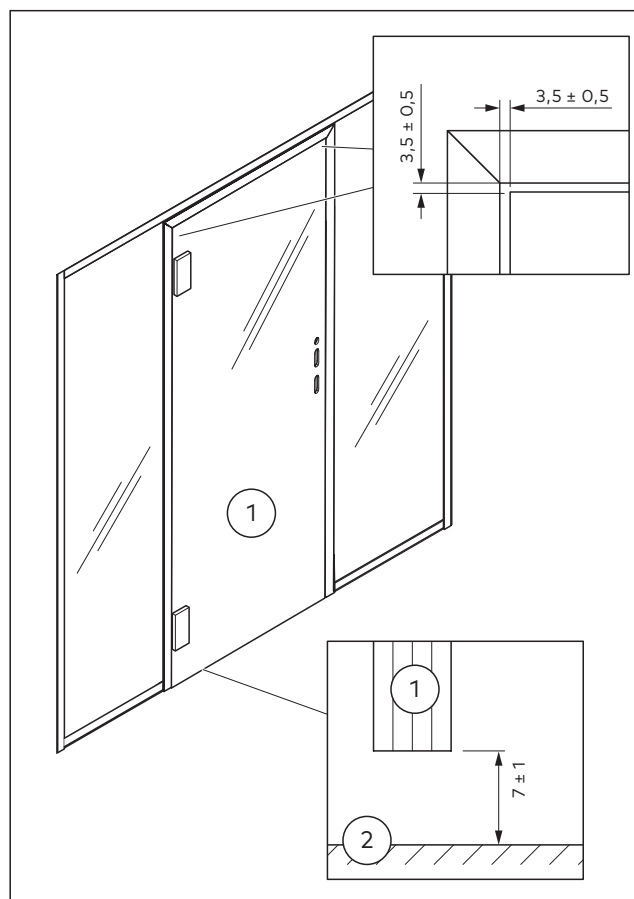

Fig. 15 Clearances in the door frame system
- Between glass door leaf and door frame on both sides 3.5 mm ± 0.5 mm (Fig. 15)
- Between glass door leaf and finished floor level (FFL) 7 mm ± 1 mm (Fig. 15)